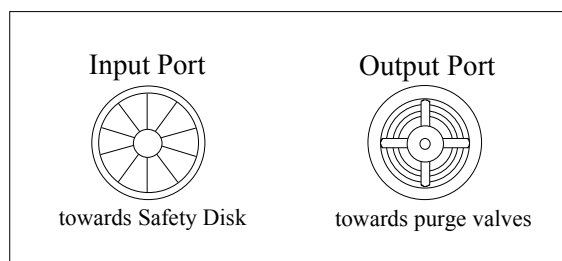
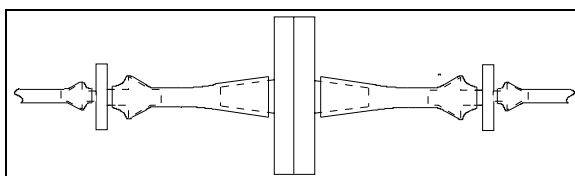

FIGURE 5-8 Filter Orientation Reference
FIGURE 5-9 Completed Filter Installation
3. The filter must be installed in the correct orientation (See Figure 5-8). Install the filter and silicon tubing onto the existing barb fittings. The completed installation should appear as in FIGURE 5-9.